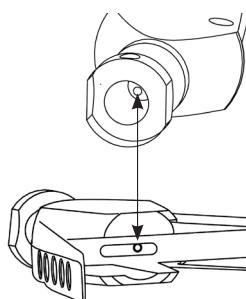

Figure 4
- 4) Using appropriate tools thoroughly clean the whole cannulation (fig. 4) to remove any debris that might be present. Additional information on cleaning and reprocessing can be found in the leaflet PQRMD.